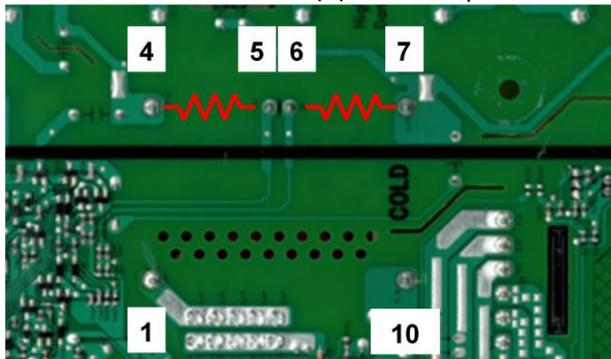

Fig.2 Pins Location
- a. Measure the resistance (R) between pin 4 and 5 of T701 (Fig.2). If measured R is > 1 kohm = Not OK.
- b. Measure the resistance (R) between pin 6 and 7 of T701 (Fig.2). If measured R is > 1 kohm = Not OK.
Measure the resistance (R) between pin 4 and 5 of T701 (Fig.2). If measured R is < 1 kohm = OK.
Measure the resistance (R) between pin 6 and 7 of T701 (Fig.2). If measured R is < 1 kohm = OK.